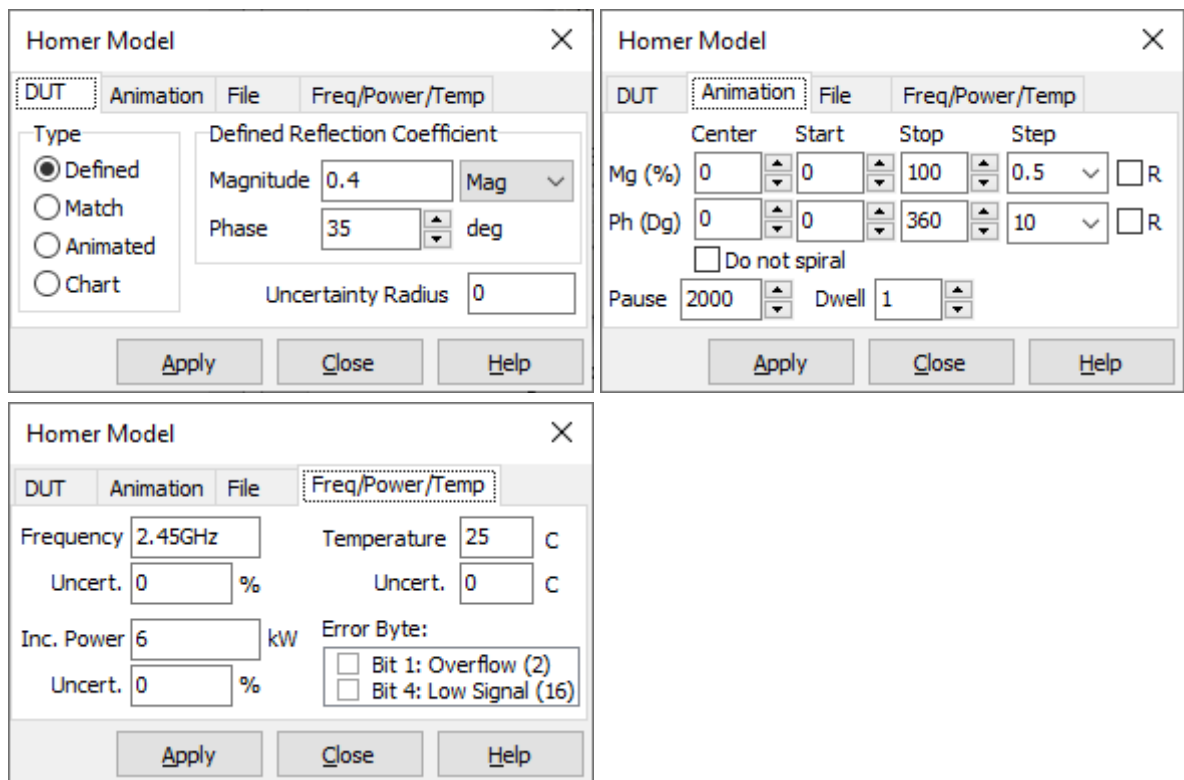

Fig. 2. Pages of **Homer Model** window.
- Open the **Homer Model** window (Fig. 2) by clicking the menu item **Model**.
- Animated**: Time-varying reflection coefficient, spiraling in polar diagram according to settings in **Animation** page. For details, refer to Help for Homer, topic *Homer Simulation > Homer Model Window > Animation Page* (try the settings shown in Fig. 2).
2. Set a desired magnetron frequency in the **Homer Model** window (Fig. 2).